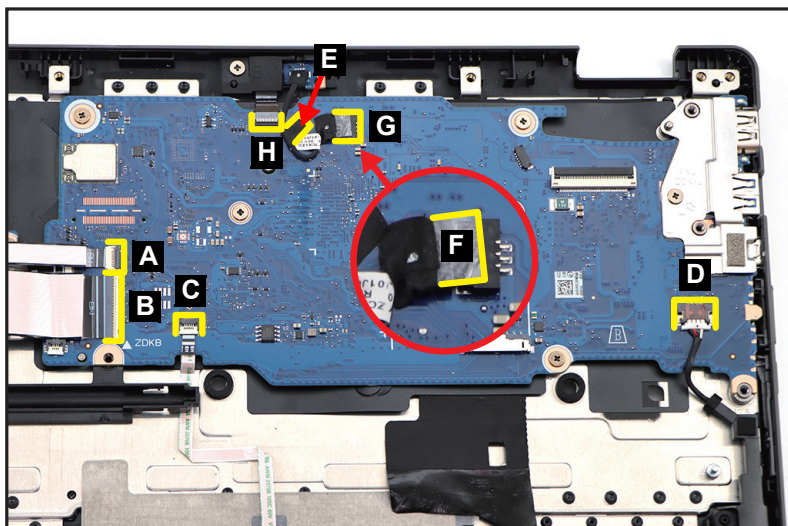

Figure 1-25. Mainboard Removal
1. Disconnect the LTE board FFC from the mainboard connector (A) (Figure 1-25).
2. Disconnect the 36-pin I/O board (L) FFC from the mainboard connector (B) (Figure 1-25).
3. Disconnect the touchpad FFC from the mainboard connector (C) (Figure 1-25).
4. Disconnect the speaker cable from the mainboard connector (D) (Figure 1-25).
5. Detach the tape (E) securing the LED board cable in place (Figure 1-25).
6. Detach the mylar (F) securing the LED board cable connection. Then disconnect the LED cable from the mainboard connector (G) (Figure 1-25).
7. Disconnect the 2nd camera cable from the mainboard connector (H) (Figure 1-25).